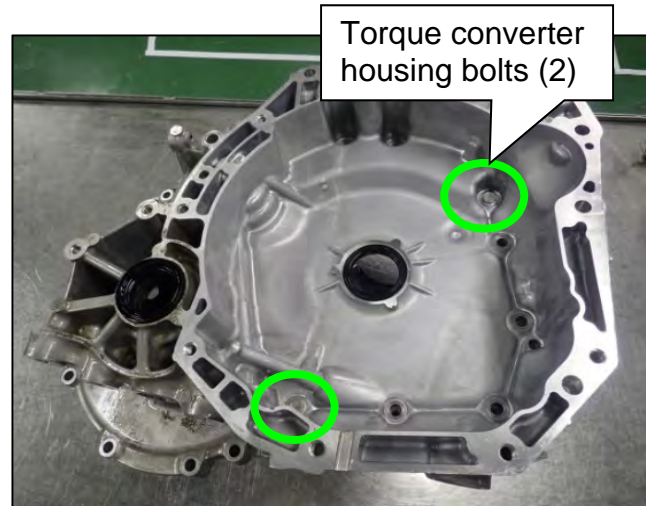

Figure 132
97. Temporarily install the torque converter housing to the CVT case with two (2) bolts at opposite corners, hand tight (Figure 132).